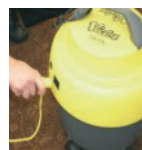

Fig 3
2. REMOVE INLET PLUG FROM SOCKET OF POWER-HEAD OF MACHINE (Fig 3).
THEN INSERT THE INLET PLUG INTO SOCKET OF POWER-HEAD ON MACHINE (Fig 3).